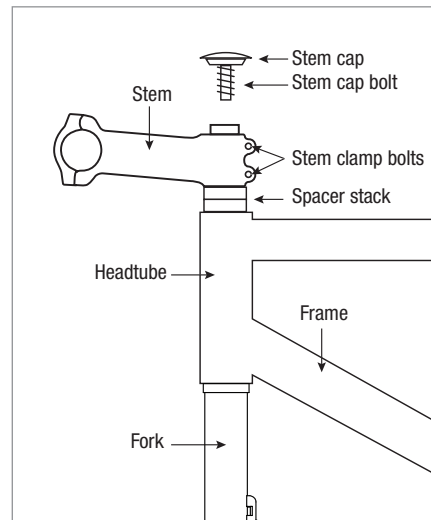

Figure 8
2. Re-Install the fork, spacers, stem, and all headset components into the headtube (Fig 8).